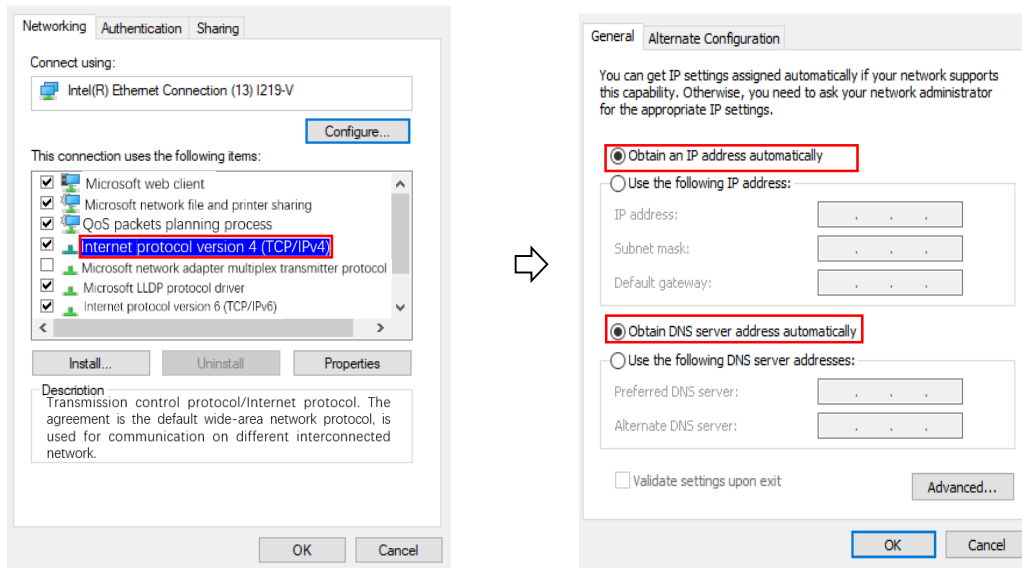

Figure. 4.3
(1) Change the IP of your computer PC to be automatically obtained by the following steps(Fig.4.3).